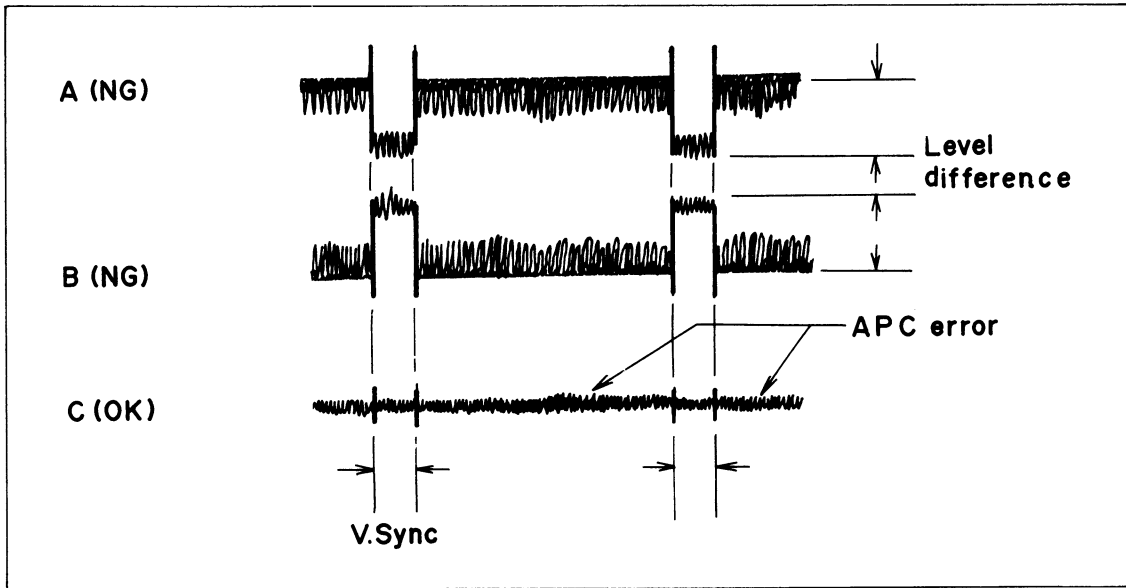

Fig. 5-37. APC error waveform
3. Next perform fine tuning by turning L18 so that the same DC level for vertical sync and APC error can be obtained as shown in Fig. 5-37-C.
4. Also verify that in the still mode the waveform remains as shown in Fig. 5-37-C. If the waveform has deviated, readjust L30.